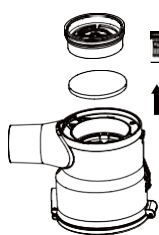
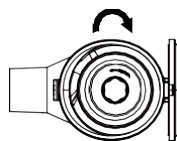
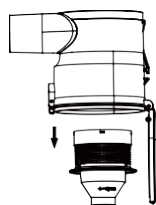

Fig.7
Fig.8
Fig.9
3. Take out the filters (Fig.7), rotate the cyclone counterclockwise (Fig.8) and take out the cyclone (Fig.9)